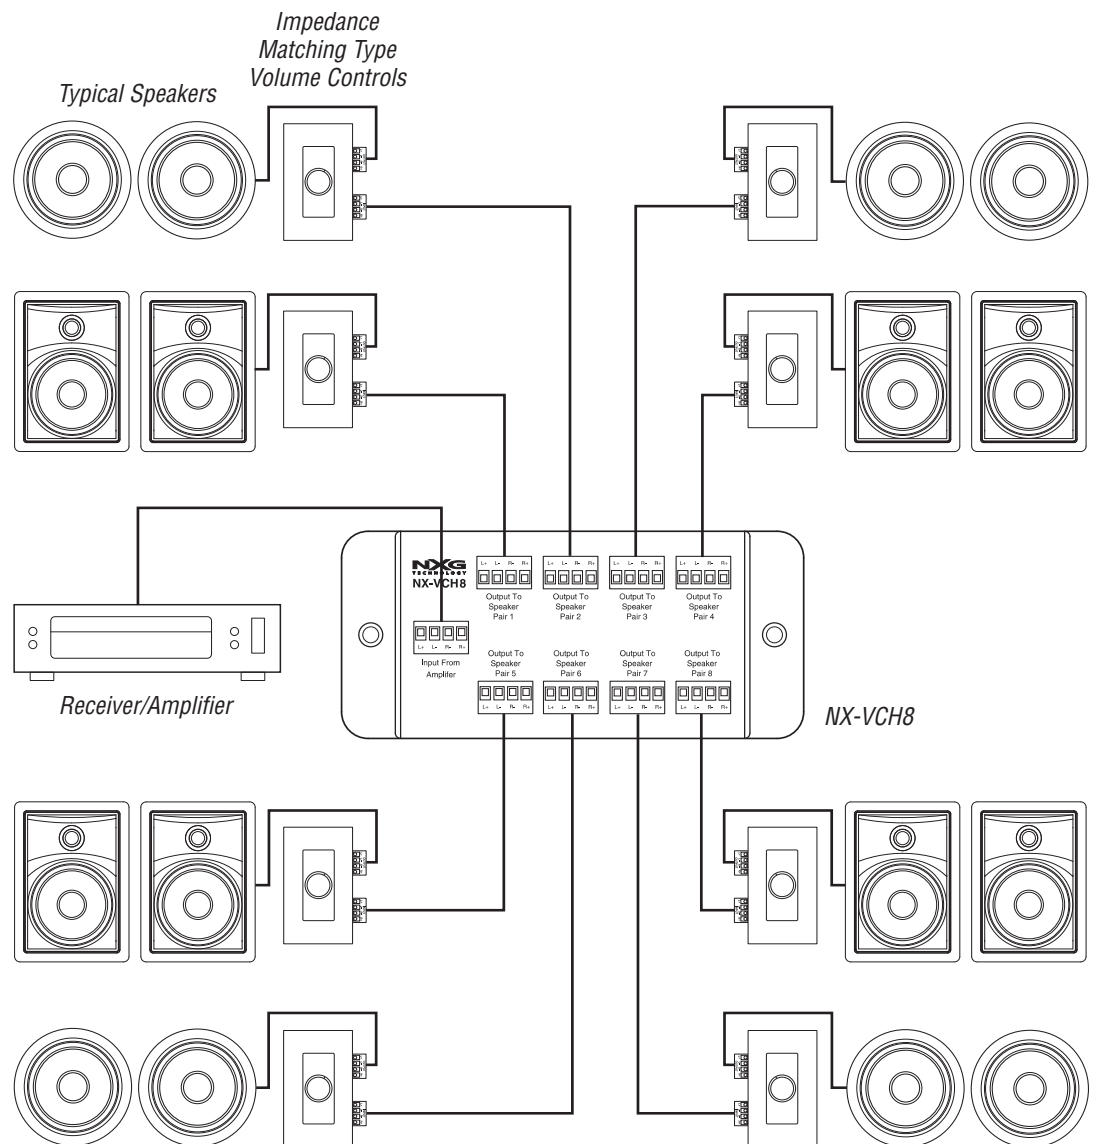

Fig. 1
1. The NX-VCH8 is designed to be mounted in a structured wiring panel or surface mounted in a central location where all your wires are routed (typically in a basement, utility room, or attic). Secure the NX-VCH8 to a wall or panel using the two mounting holes on each end of the unit. Fig. 1 shows a typical layout for 8 stereo speakers with impedance matching volume controls for a typical home system.